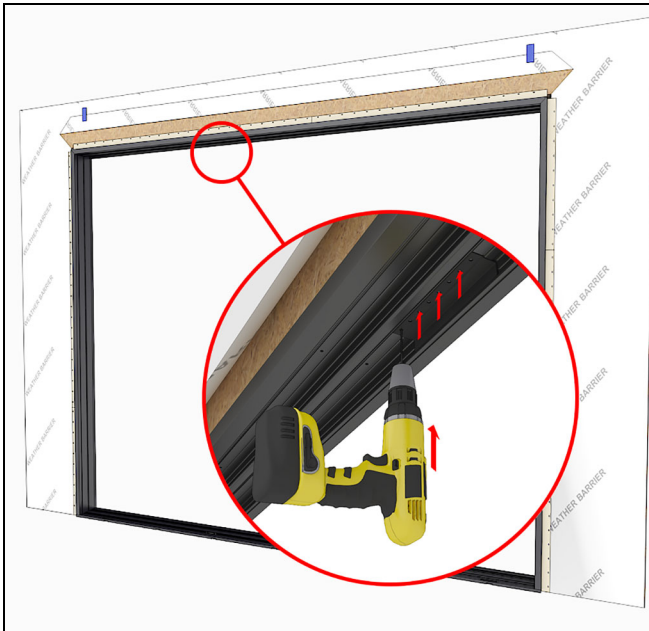

Figure 112
2. Pre-drill a 3/16" hole through the head jamb using the bracket as a template. Pre-drill at each outside hole of the bracket, and at least once more in the middle of the bracket. See Figure 112.